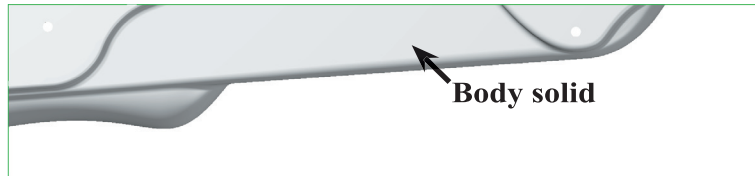

Fig. 35
Step 5. Click the **solid body**, **Fig. 35** and **ENTER** to except selection.